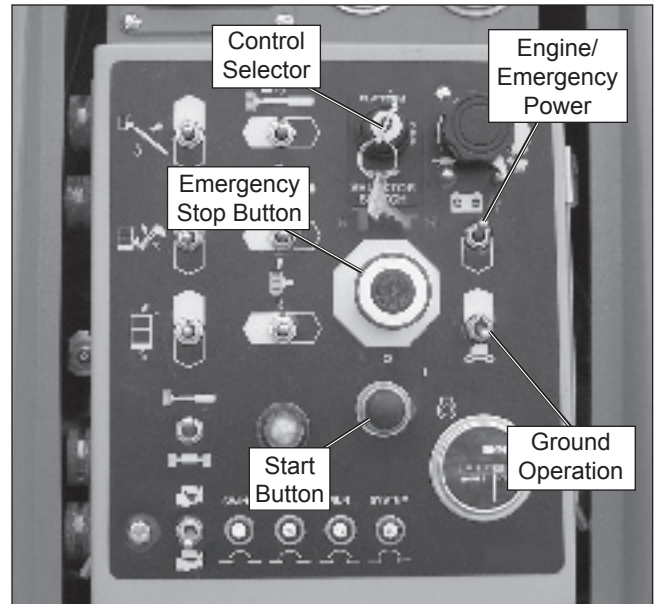

Figure 10.2 – Lower Controls
2. Place the key in the control selector switch (refer to Figure 10.2) and turn the control switch to the lower controls position.